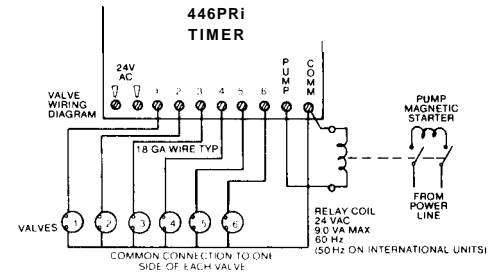

FIGURE 2
- D. If using a water pump or master valve, refer to page 11 for instructions and diagrams. (Fig. 2).